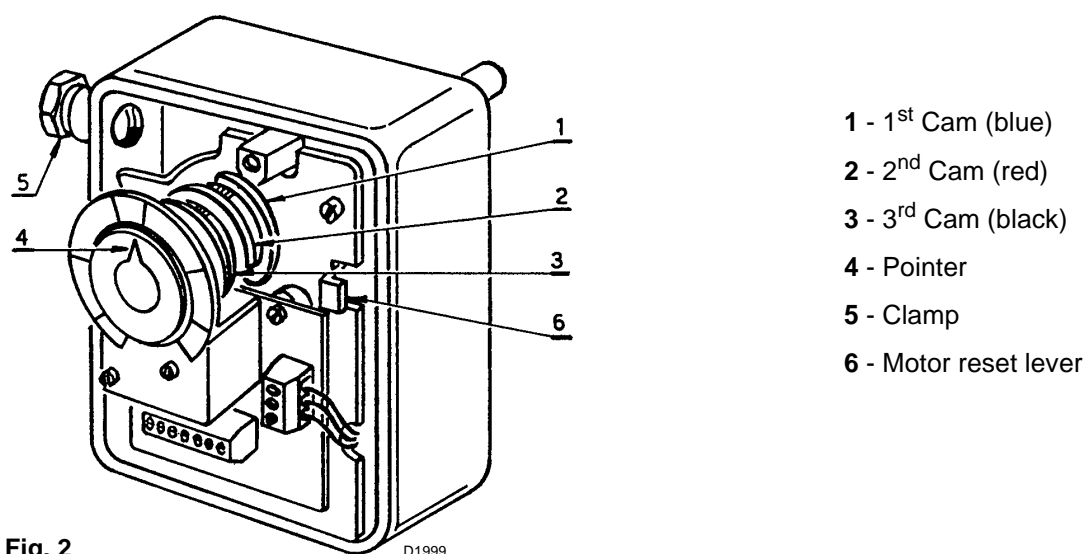

Fig. 2
- Acting on the re-set lever 6)(fig. 2) disjoin the cam (1)(fig. 5) from the motor of the servomotor.
With the burner in operation, switch off the elec. supply of the servomotor and re-set it by acting on the lever (6)(fig. 2).